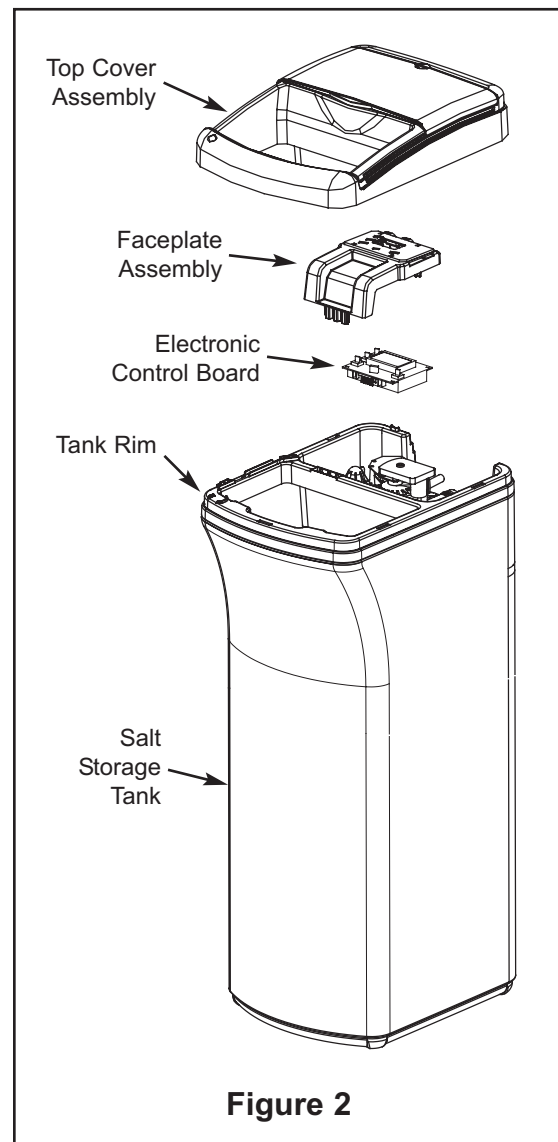

Figure 2
2. Slide open the salt cover and remove the top cover assembly (See Figure 2). Unsnap it from the tank rim by pushing in the two retainer tabs inside the front of the salt opening.
3. Lift up the faceplate assembly (See Figure 2) to expose the valve.
8. Put faceplate assembly back into place on the tank rim (See Figure 2).